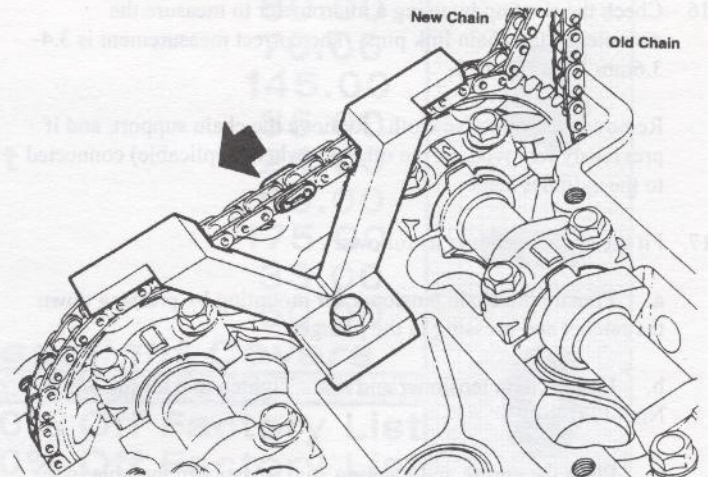

Figure 6: Fitting chain support.
10. Fit chain support 83 94 652. Remove the protective cloth and tie straps. See Figure 6. Remove the flywheel locking tool from Step 2.